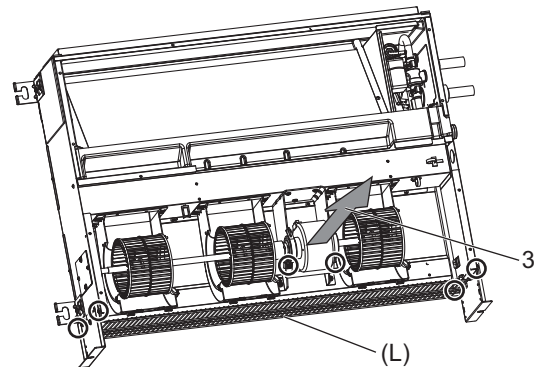

Fig.18
- (1) Remove the two motor fixing screws to remove the motor and the Sirocco fan in the direction of arrow 3. (Fig.18)
- (2) Remove the four fan guard (L) screws to remove it. (Fig.18)